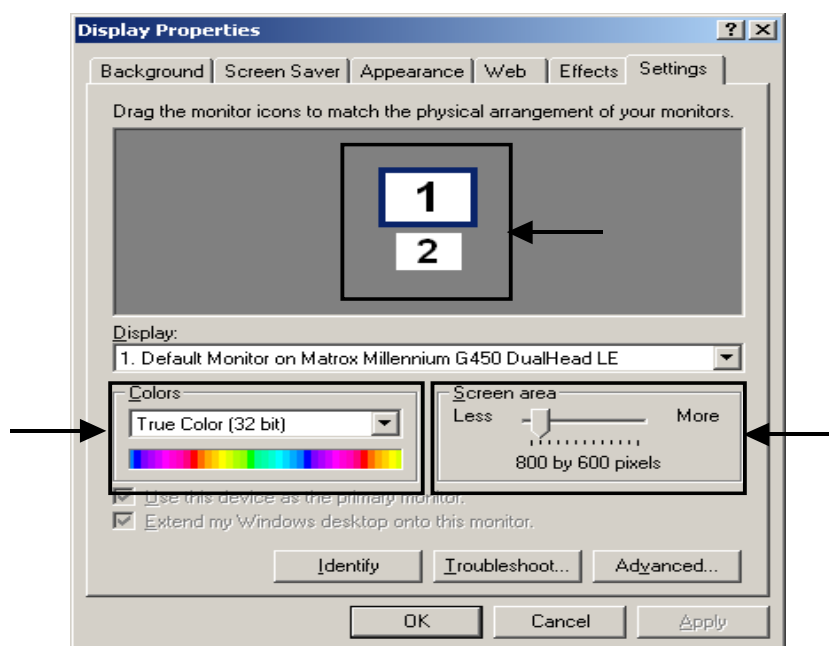

Figure 8-143 Display Properties
- 3.) Check your monitor setting is same as shown in Figure 8-143.